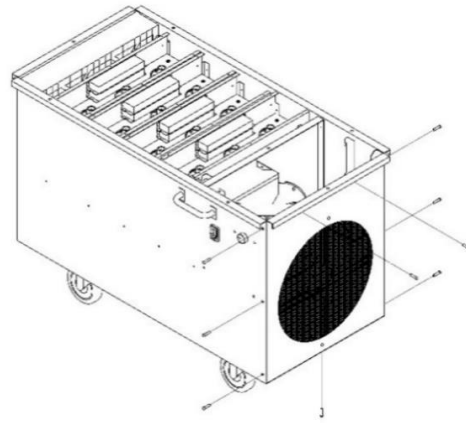

Figure 20
5.) Use an Allen wrench to remove (9) screws holding outlet grille in place. See Figure 20.
11.) Attach outlet grille to unit frame with (9) screws as shown in Figure 20. Use an Allen wrench to tighten screws.